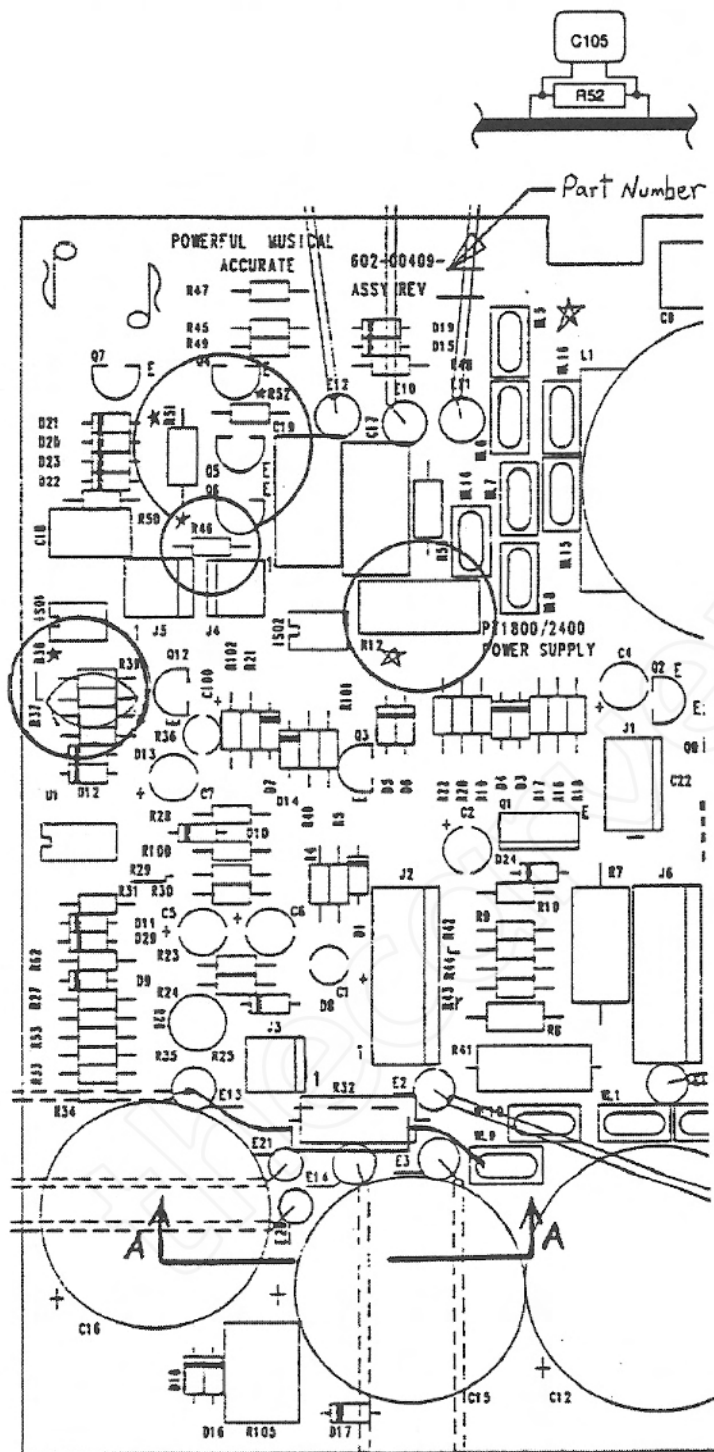

Figure 1. 602-00409-\_\_ Power Supply Board
1. Locate R52 on each power supply board (see Figure 1). Install a 0.22 $\mu$ F/100V polyfilm capacitor (Carver P/N 204-00030-00) in parallel across R52.